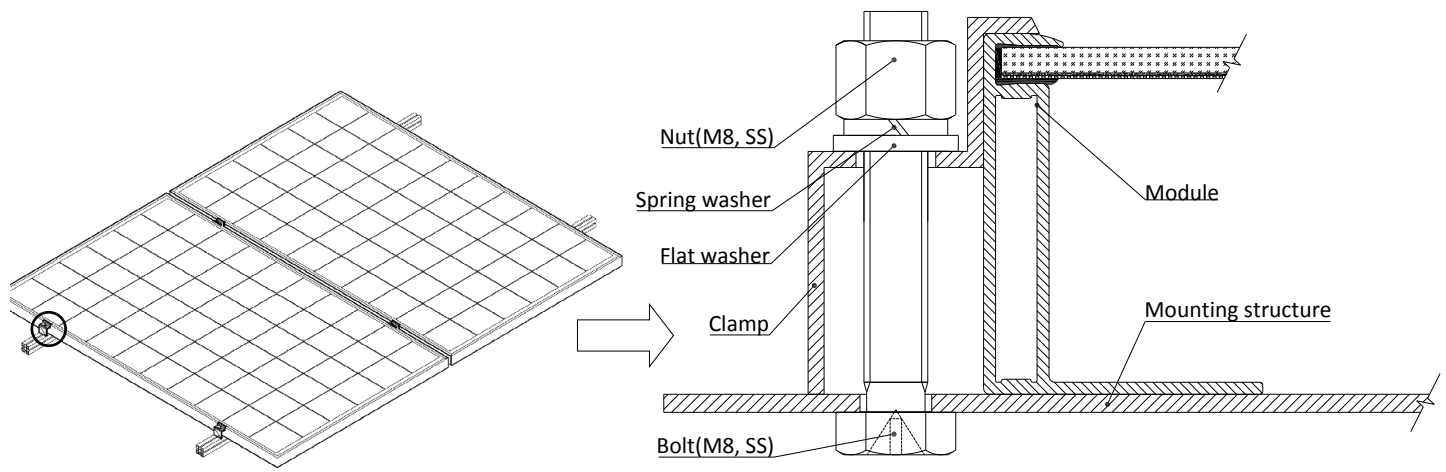

figure2
- Clamping system: choose the right fixture to fix the module on the support frame, show in figure2